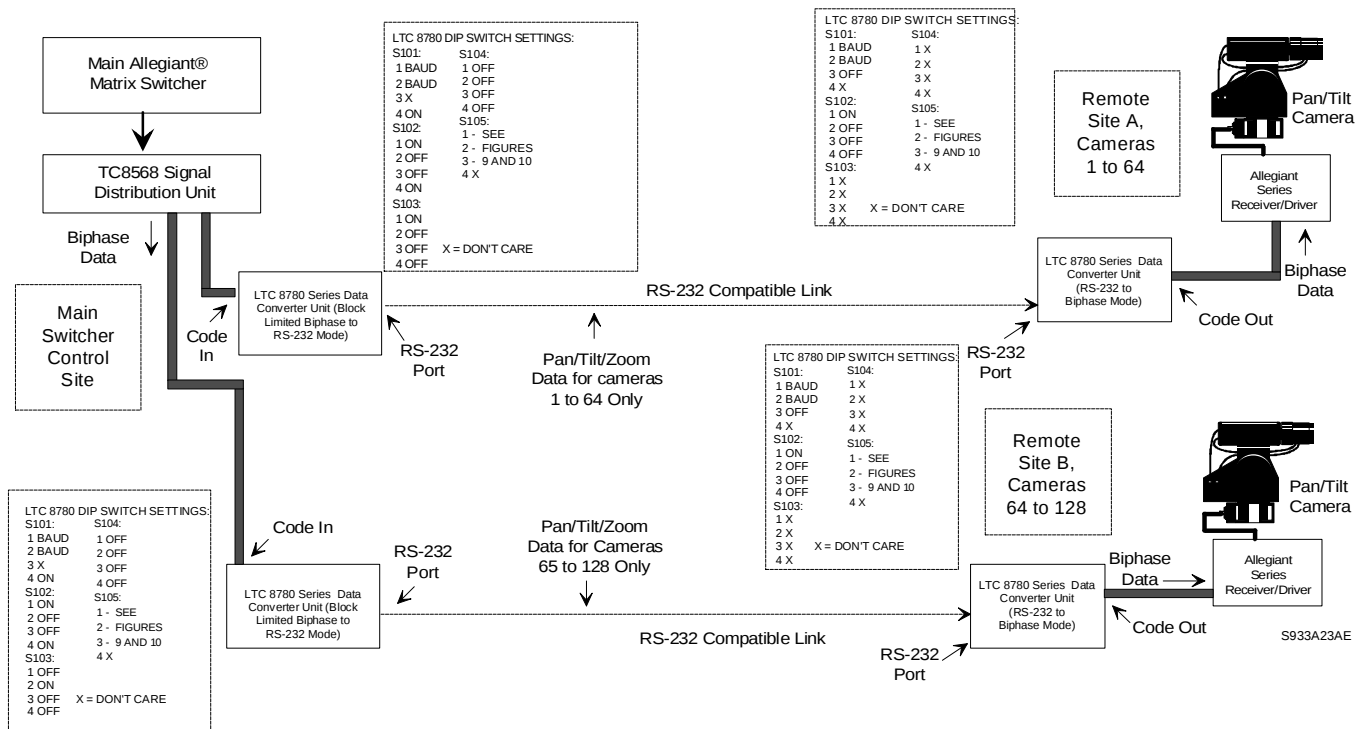

Figure 6: LTC 8780 Series Configured For Block Limited Transmission
3. TRANSMIT ONLY RECEIVER/DRIVER COMMANDS FOR 1 BLOCK OF 64 CAMERAS (**Figure 6**)